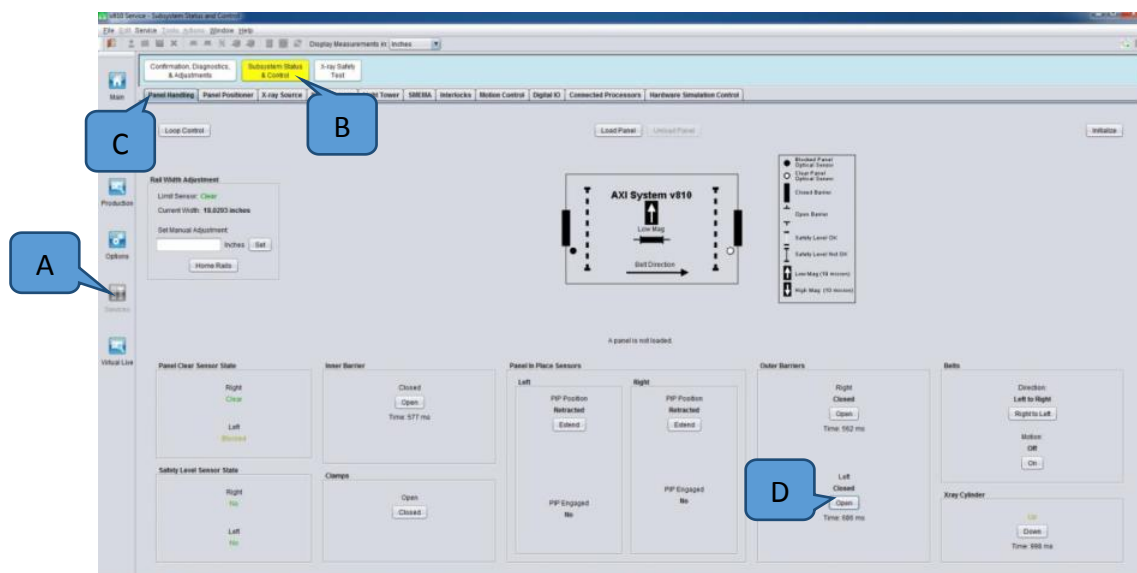

Figure 5 Panel Handling
- Go to Panel Handling tab and initialize as show in Figure 5. Change display measurement unit to MM